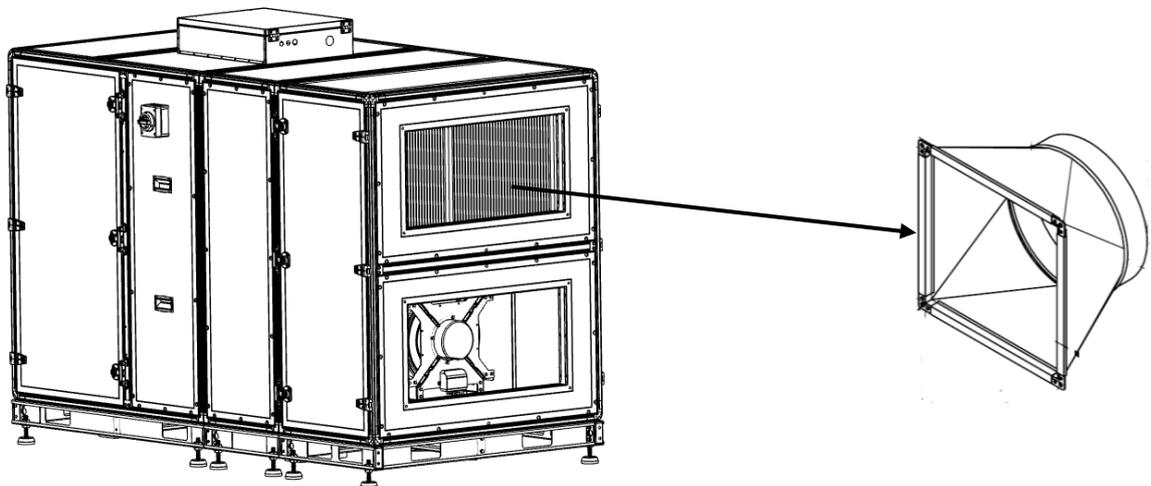

Fig. 157
- Connect the adapter to the outlets of the device with the M8X16 bolt (Fig. 157)